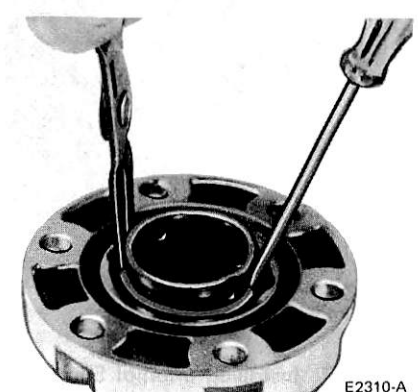

FIG. 18 Knob Retainer Snap Ring Installation
4. Install the actuating knob into the knob retainer with arrow pointing to free position. Install the knob retainer snap ring. Spread snap ring with snap ring pliers. Use a small screwdriver to position the snap ring in the groove of the knob (Fig. 18).